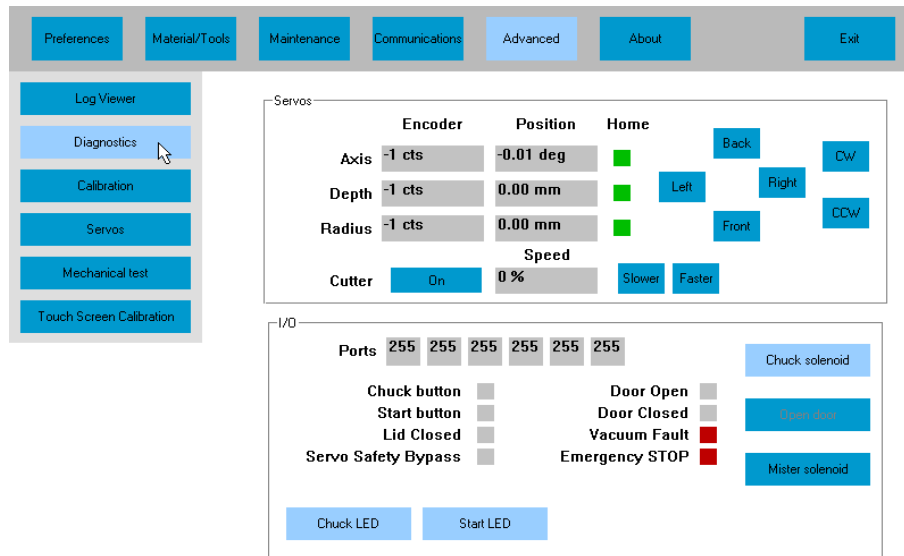

Figure 5.2: Diagnostics Screen
- Diagnostics Screen (Figure 5.2)
The Diagnostics Screen allows the user to manually exercise the axis servo motors, to display the encoder counts and position of each axis, to view the status of the input/output points and to actuate mechanisms such as the chuck, door, and mister. The features available on the Diagnostic Screen are generally used under guidance from service personnel. Figure 5.2 shows the Diagnostics Screen. The table following the figure describes the graphic elements displayed on the Diagnostics Screen.